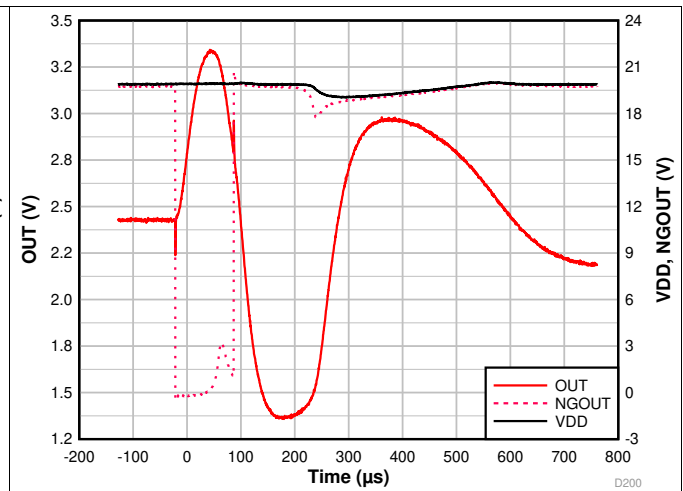

Figure 18. Neutral-Ground Pulse on V_{OUT} With $2\text{-}\Omega$ N-G Fault. No Load or Fault Currents.
- b. The N-G pulse on V_{OUT} when there is a N-G fault must look like Figure 18. The N-G pulse measured on V_{OUT} should first increase above 2.5 V and then decrease below 2.5 V. The second, downward pulse should be greater in amplitude and energy than the initial positive pulse. This rule should be true regardless of line polarity. N-G pulse polarity is determined by the connection of NG_OUT and GND pins to the 200-turn coil and by the polarity of the line wires through the transformer core.